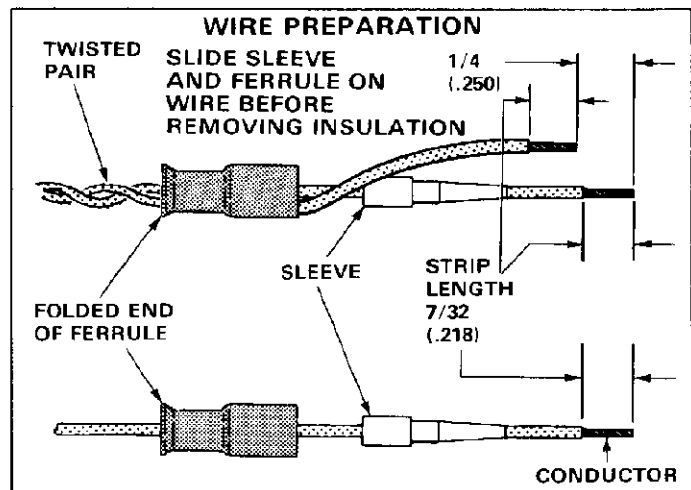

Fig. 2
- Slide ferrule (folded end first) onto wire(s). Slide sleeve onto single conductor wire or onto center conductor wire of twisted-pair application. Strip the wire(s) to the length indicated in Figure 2. Do NOT cut or nick the wire strands.